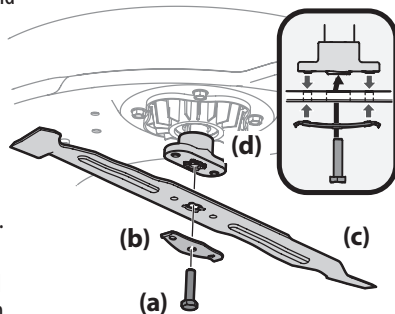

Figure 25
- Remove the hex screw (a) and the blade bell support (b) which holds the blade (c) and the blade adapter (d) to the deck motor. See Figure 25.
- Remove blade (c) and adapter (d) from the deck motor spindle. See Figure 25.